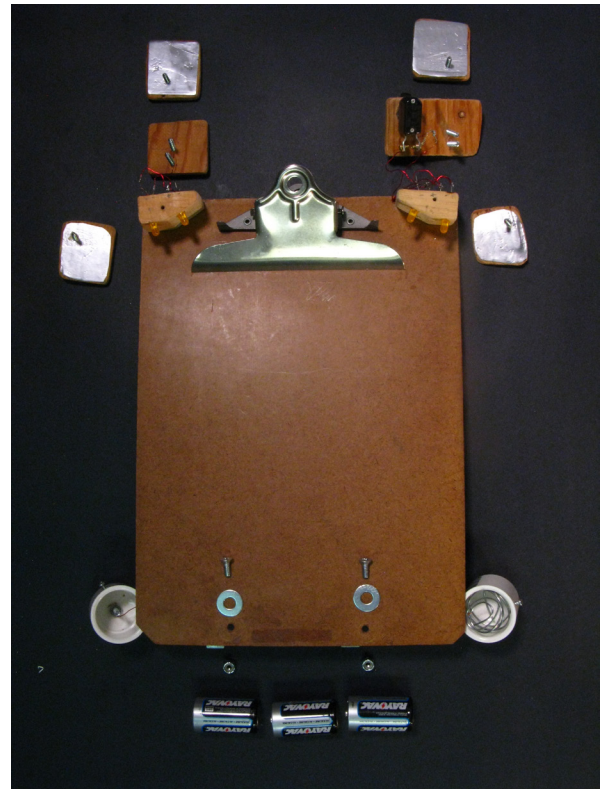

Figure 2: semi-exploded view, screws in place
Materials List (for one LED clipboard) (Figure 2)
2. Measure, mark, and drill holes in the appropriate places in the wedge for the LED leads, and the screws to attach the clipboard, top, side and back covers (Figures 2, 10, 11).